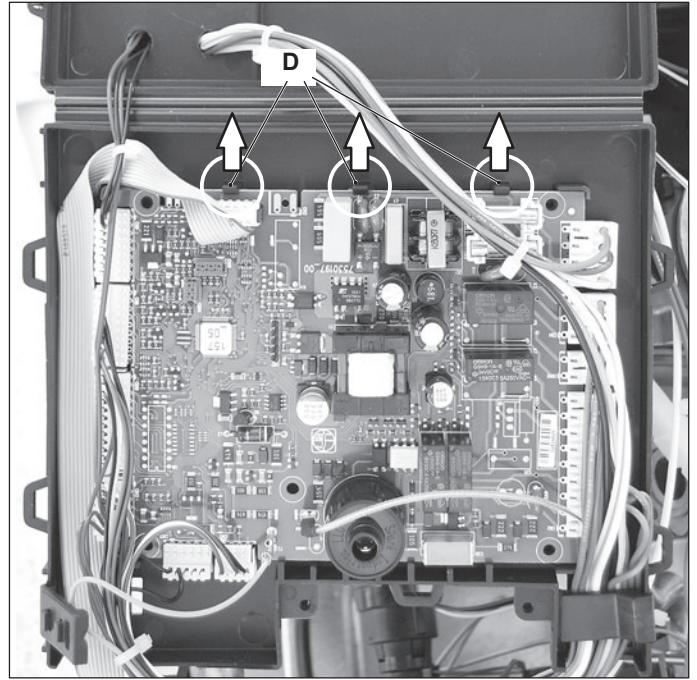

Figure 9.12
- 4 Delicately flex the hooks D in the directions indicated (Figure 9.12) in order to release the circuit from the box.